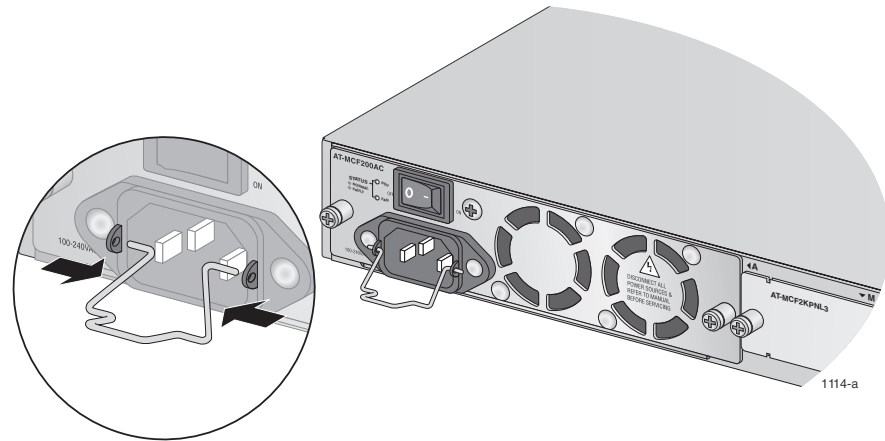

Figure 6. Installing the Retaining Clip
- Position the retaining clip as shown in Figure 6 and press the sides of the clip towards the center while inserting the short ends into the holes in the bracket.